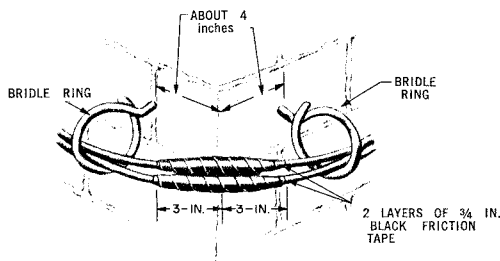

Fig. 1 — Z Bridle Rings
7.02 Where a wire run turns an outside corner of the supporting structure, place bridle rings or insulated screw eyes as shown in Fig. 1.